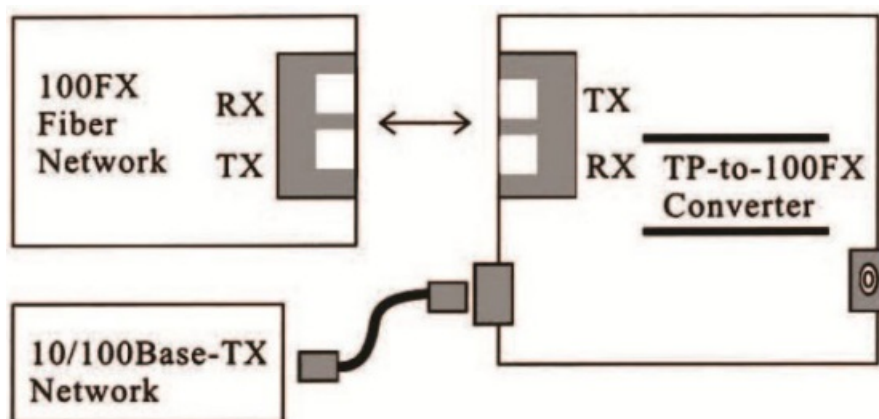

Fig 1 Basic Network Connection
3. Wire connection for the Front and Side panel as shown in Fig 1 Basic Network Connection.